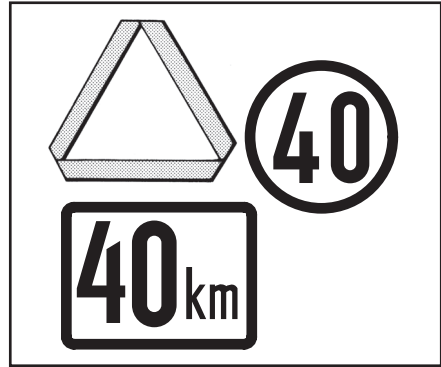

Fig. 2.21
- Make sure that the tractor and any other implements have slow moving vehicle symbols or a rotating light, if provided for by law (Fig. 2.21).